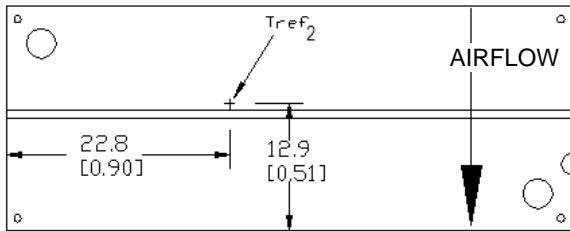

Figure 13.  $T_{ref}$  Temperature Measurement Location for Module with Heatplate.
To provide protection under certain fault conditions, the unit is equipped with a thermal shutdown circuit. The unit will shutdown if the thermal reference point,  $T_{ref1}$  exceeds 135°C (Figure 12, typical), or  $T_{ref2}$  exceeds 120°C (Figure 13, typical), but the thermal shutdown is not intended as a guarantee that the unit will survive temperatures beyond its rating. The module will automatically restart upon cool-down to a safe temperature.
The thermal reference point,  $T_{ref2}$ , used in the specifications for modules with heatplate is shown in Figure 13. For reliable operation this temperature should not exceed 104°C.